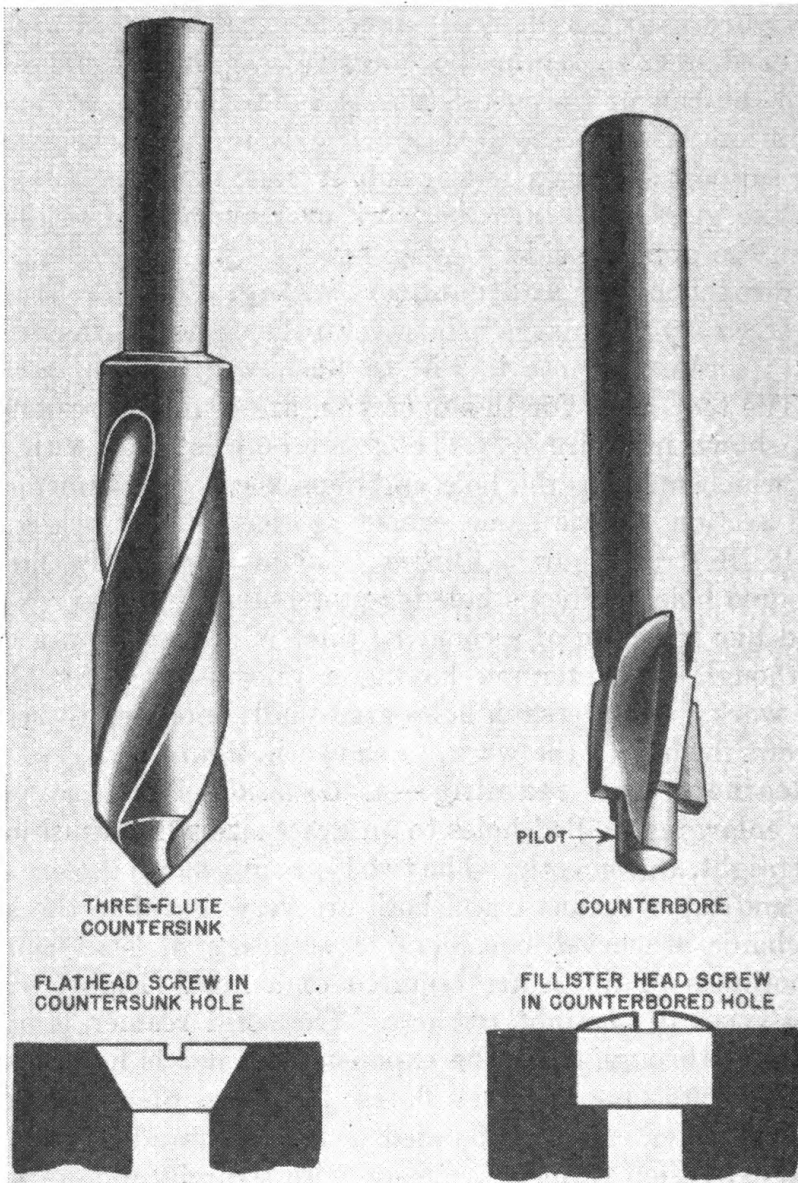

FIGURE 48.—Counterbore and countersink.
13. Counterboring and countersinking.—The mechanic often finds it necessary to enlarge a hole for part of its depth so that the head of a screw run into it will be flush with the surface of the work. The tools used for this operation are counterbores and countersinks, shown in figure 48. The counterbore is fitted with a guide or pilot which fits into the hole and thus keeps the diameter of the enlarged section on the same center as that of the original hole. Figure 48 illustrates how a fillister head machine screw fits into a counterbored hole. When a hole is countersunk, the enlarged portion is shaped like a section of a cone; no pilot is necessary on a countersink, although a countersink having a pilot is used for the most accurate work. Countersunk holes are usually intended to bring flat-head screws flush with the work, as shown in figure 48.